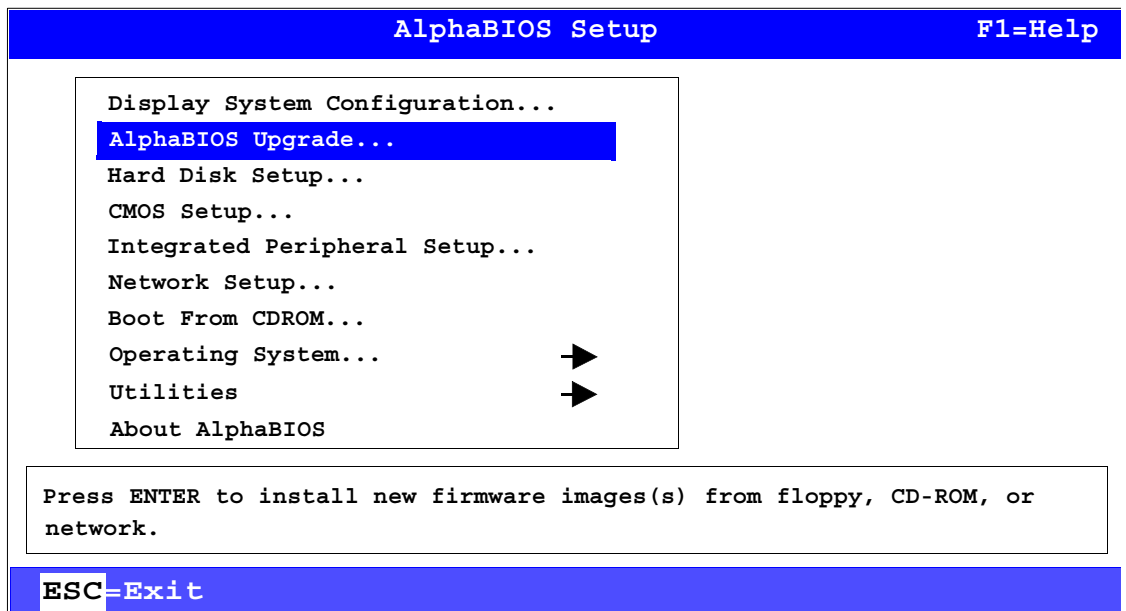

Figure 4-8 Setup Screen with AlphaBIOS Upgrade Selection
4. Select **Upgrade AlphaBIOS** from the list box in the AlphaBIOS Setup Screen shown below in Figure 4-8.